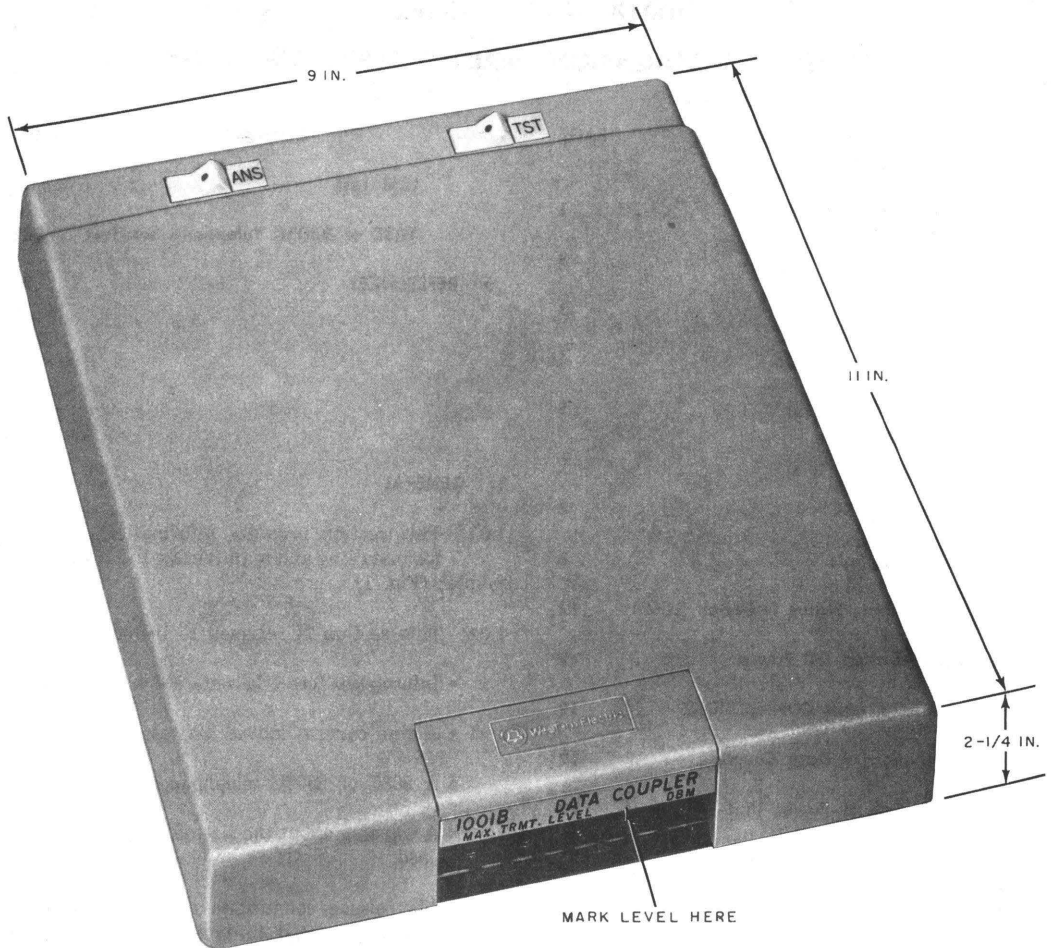

Fig. 1—1001B Data Coupler
1.01 This section provides information required for installing and maintaining the 1001B data coupler (Fig. 1).